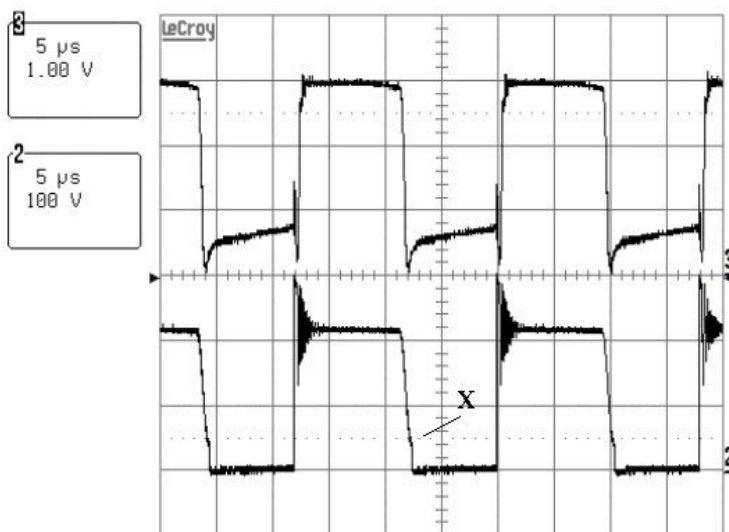

Fig 2) Drain (D) voltage of IRIS4011 (CH2) and FB voltage (CH1) 90VAC in Full load
Once the output capacitors C7 & C8 and the Vcc capacitor C9 are fully charged, the complete quasi-resonant signal can be passed through the mode switching circuit & delay circuit D4/Q1/R11/D6 to the feedback (FB) pin. This will happen only if the Bias winding voltage is above the switching threshold of the mode switching circuit (the operation of the mode switching circuit will be discussed in the next section). This will give a voltage above the V_{th2} threshold of the IRIS4011, and this activates the quasi-resonant operation, holding the internal FET off until all the energy is transferred from the primary side of the transformer to the secondary and bias outputs. When all the energy is transferred, the quasi-resonant signal at the FB pin will start to fall until it can no longer supply the 1.35mA required by the IRIS4011 internal latch, and the FET is turned back on. This is also the lowest point of the resonant voltage at the drain pin of the IRIS4011 (shown as point X in Fig.2), so results in reduced switching losses.
Fig 2) shows the drain voltage of the IRIS4011 and the FB voltage with full load output at 90VAC input. Note that point X marked on the drain waveform shows the detection point for the quasi-resonant signal which is the lowest point on the drain waveform after the energy is transferred.